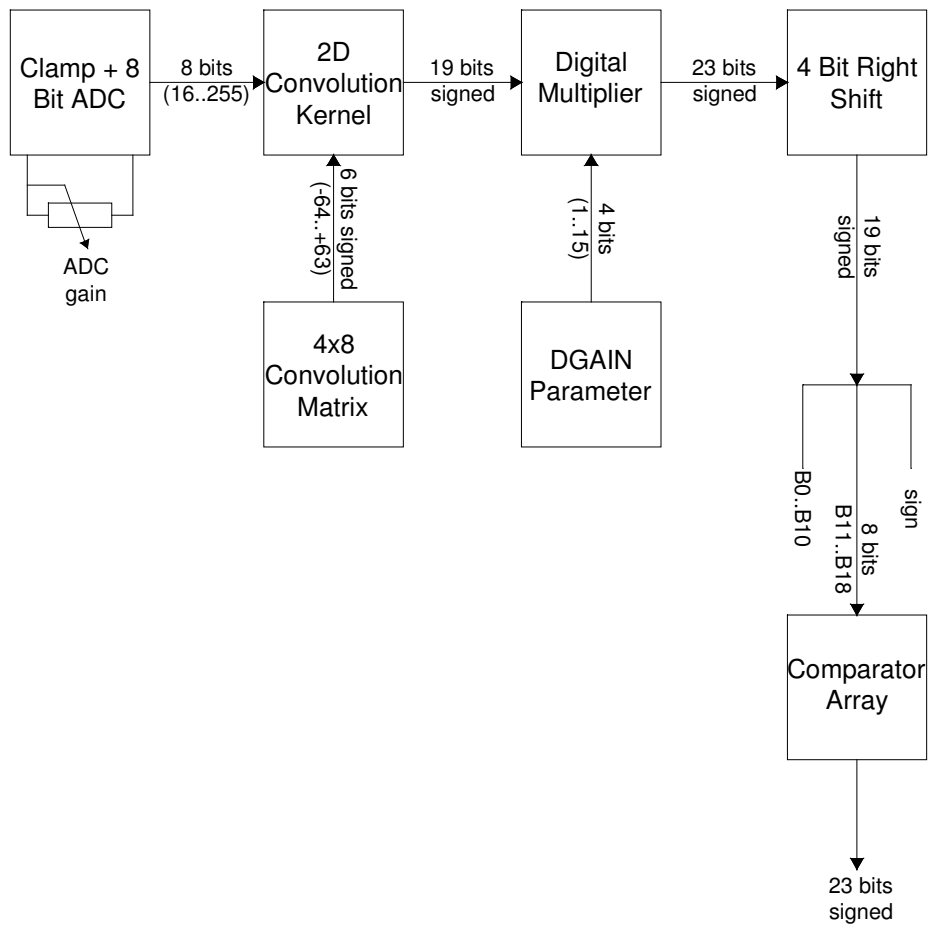
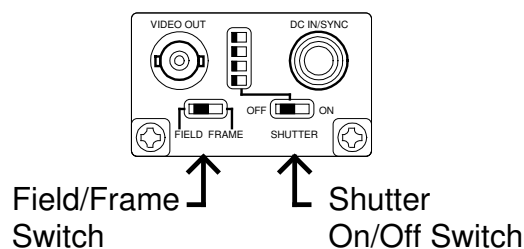

Fig 3: Gain affecting stages of the RCP
Fig 4 Panel of the CCD camera inside the Readout Unit
3. The gain setting of the CCD camera (see fig. 4).
4. The gain setting of the analog-to-digital converter on the Realtime Centroiding Processor (-4.5...10 dB, see fig. 3).
The gain adjustment of the A/D converter should ensure that the video signal from the CCD camera covers the whole range of the ADC without saturating it (see fig.4). You can control this by looking at the brightness values of the detected scintillation light spots with the 'RCP.EXE' program. The trim pot for adjusting the gain of the A/D-converter is accessible from outside of your computer (see fig. 3).